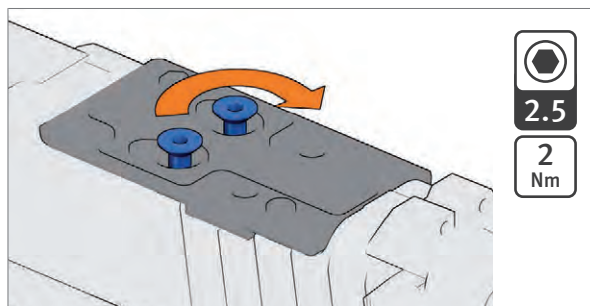

Fig. 34: Tightening the screws
4. Tightening the screws (*Fig. 34*).